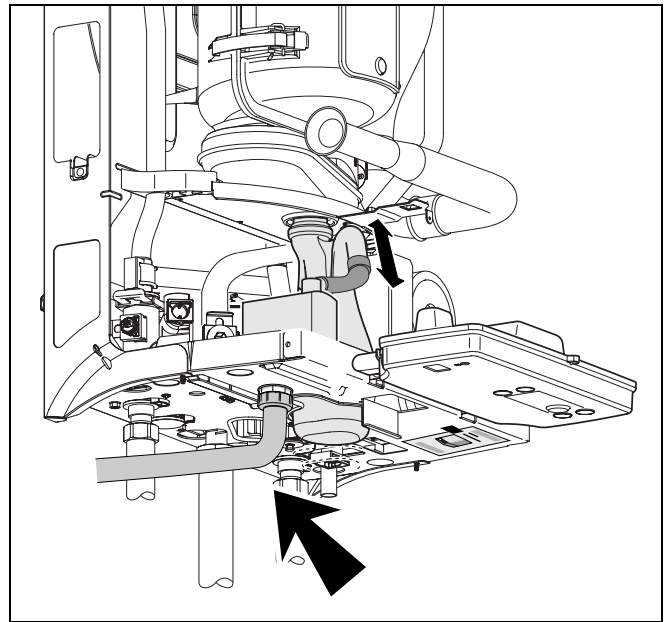
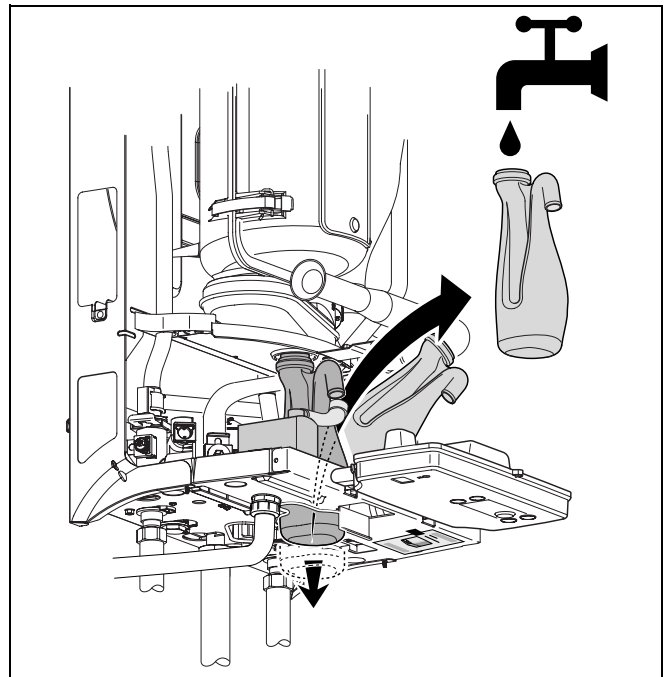

fig. 43 Disconnect hose from condensate trap
fig. 44 Remove the condensate trap and fill with water
- Remove the condensate trap and fill with water (see fig. 43 and fig. 44).